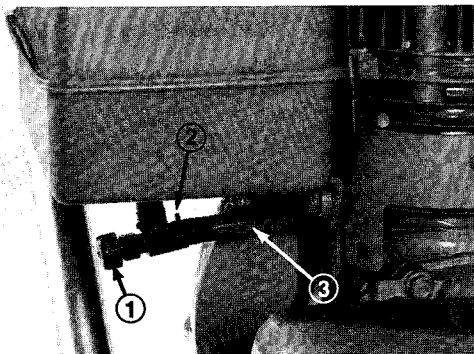

Figure 23
1. Close fuel shut off valve located under engine (Fig. 23).
3. Loosen hose clamps securing fuel line to valve and slide line off valve (Fig. 23).